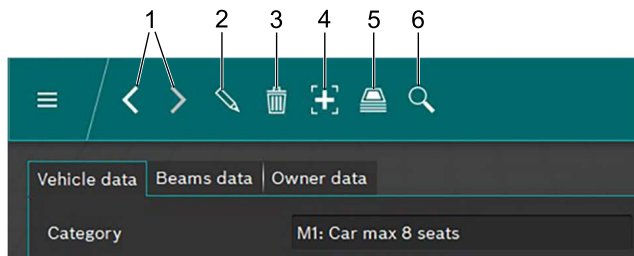

Fig. 83: Menu bar
Use the arrows (Fig. 83 / 1) to switch between existing records.
If an existing record is displayed in the window, it can be edited after you click on the  button (Fig. 83 / 2). After you click on the  button, the button changes into a floppy disk. After the record has been edited, it must be saved by clicking on the floppy disk symbol.
A record displayed in the window can be deleted by clicking on the "Trash bin" button (Fig. 83 / 3).
Clicking on the "Archive" button (Fig. 83 / 5) opens the record archive („6.13 Archive“).
Clicking on the "Search" button (Fig. 83 / 6) opens the search function. Different search options can be selected to find records („6.12.2 Finding a record acc. to the vehicle“ and „6.12.3 Finding a record acc. to the vehicle owner“).
1. Click on the  button (Fig. 83 / 4).
To find a vehicle, first select the **Vehicle data** tab. Click on the **Search** button  in the menu bar (Fig. 83 / 6). A search window opens.
Click on the **Search** button  in the menu bar (Fig. 83 / 6). A search window opens.
The record displayed can be deleted by clicking on the **Delete record** button  (Fig. 83 / 3).
! Clicking on the **Delete record** button  (Fig. 83 / 3) deletes the record irrevocably.
Click on the "Paper stack" icon  (Fig. 83 / 5) in the menu bar in order to call up archived vehicle test results. A list of all archived vehicle tests is displayed. See „6.13 Archive“ appears.